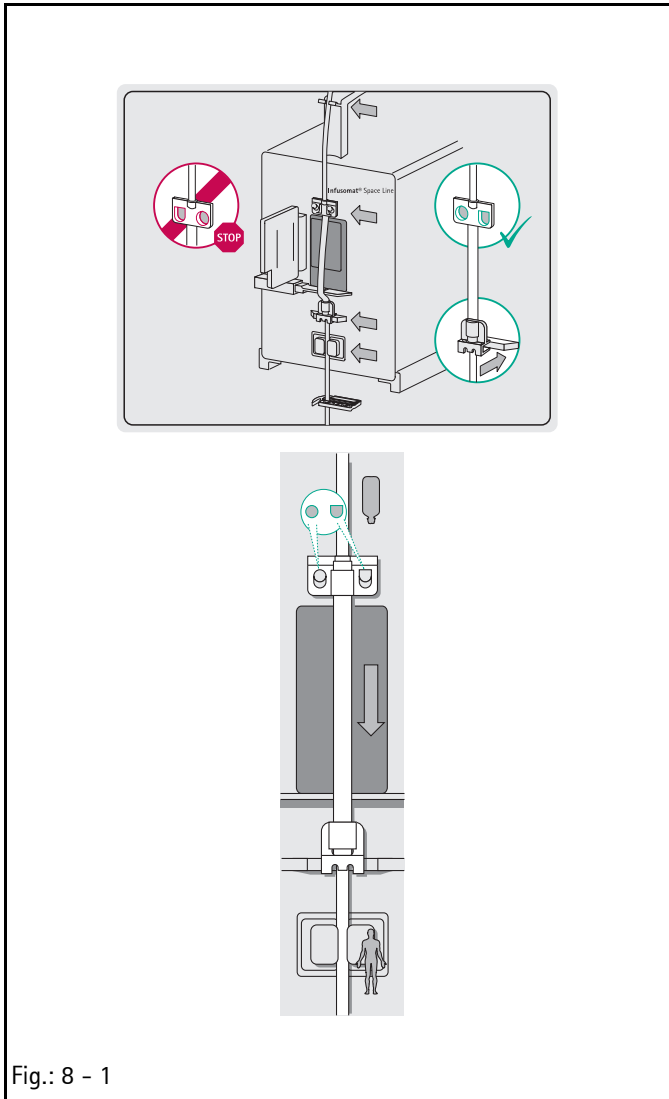

Fig.: 8 - 1
- a) Check the special additional labels of the Infusomat® fmS adjusted for the Infusomat® Space Line, please see Fig.: 8 - 1.